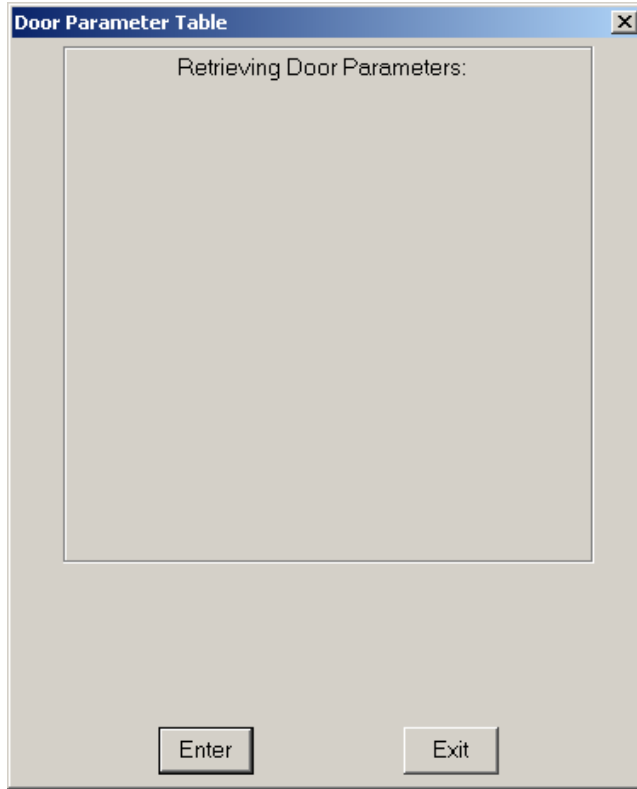
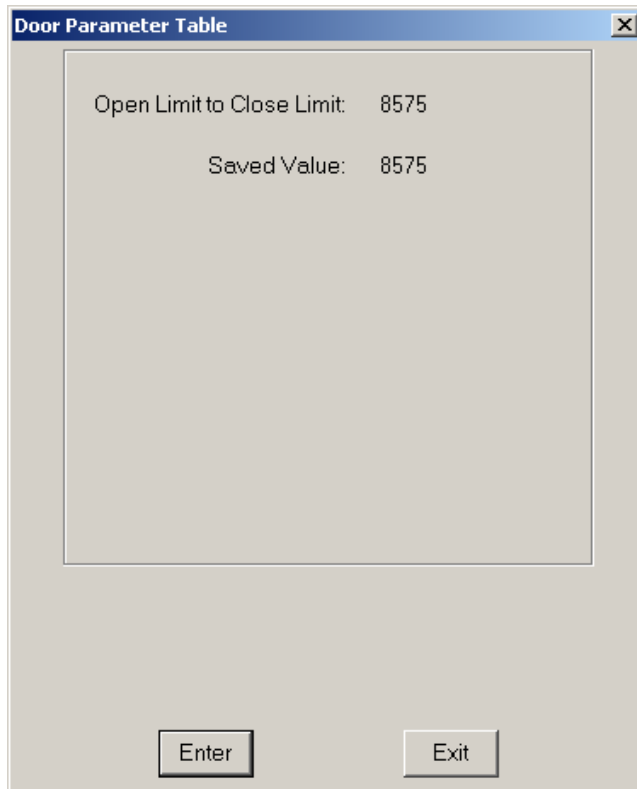

Figure 35
Figure 36
2. Continuing with **Parameters** causes a new message to appear within the Door Parameters window, shown in Figure 35. The FREEDOM Tool is in the process of retrieving the Door count limit from the 6300GE Door Operator. Once the FREEDOM Tool has received the count limit from the 6300GE Door Operator, the window is updated with this count limit. The numbers that are displayed are the count limits that have been determined by a Door Startup Sequence procedure as shown in Figure 36. To exit the Parameters window position the cursor on the **EXIT** button and click once with the pointing device. Single clicking on the **ENTER** button will perform a retrieval of the count limits from the 6300GE Door Operator as previously stated.